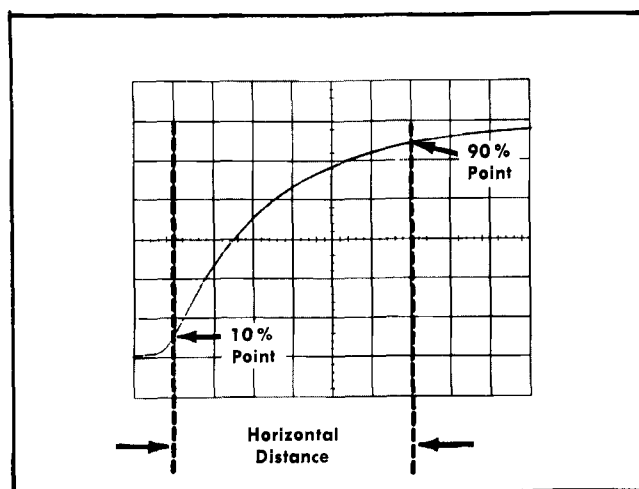

Fig. 2-12. Measuring risetime.
7. Adjust the HORIZONTAL position control to move the 10% point of the waveform to the second vertical line of the graticule. For example, with a five-division display as shown in Fig. 2-12, the 10% point is 0.5 division up from the start of the rising portion.
Example. Assume that the horizontal distance between the 10% and 90% points is four divisions (see Fig. 2-12) and the TIME/DIV switch is set to .5 μ SEC with the Horizontal Display switch set to X5 MAG. Applying the time duration formula to risetime: